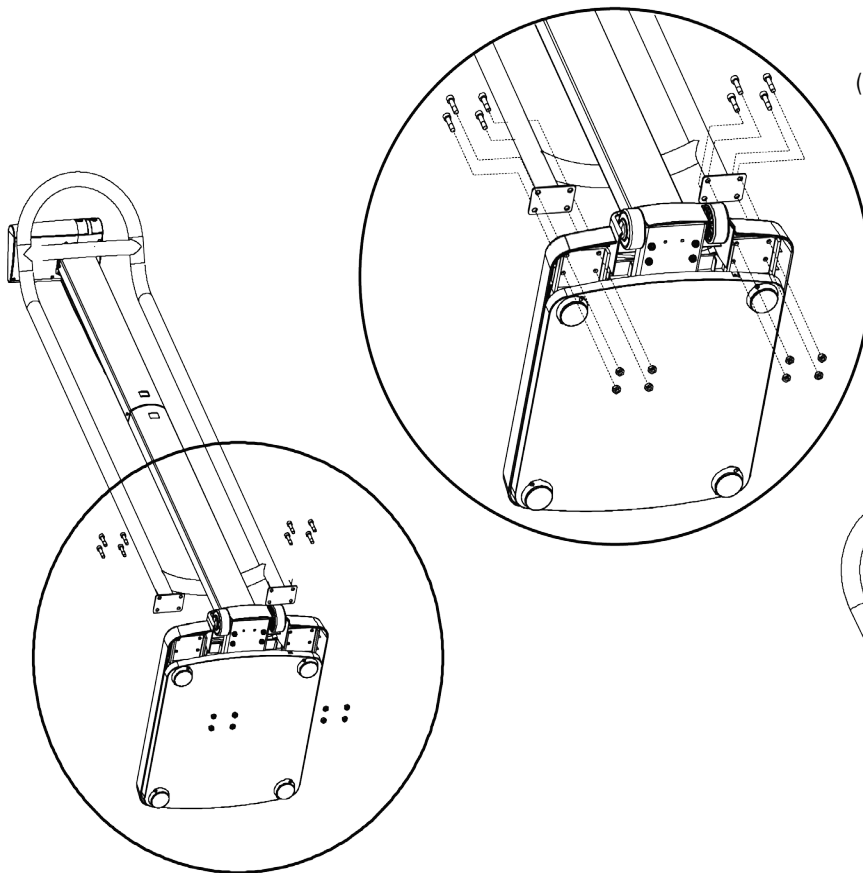

Figure No. 2
2. Referring to Figure No. 2, position the handrail over the display and column, and then carefully lay the scale down with the column horizontal to the floor.